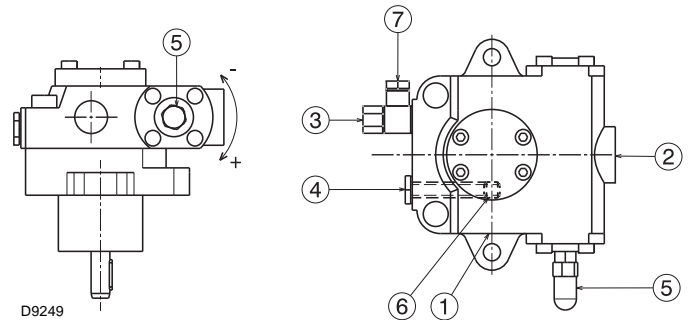

Fig. 22
The pumps are installed on the burner with the by-pass closed by screw 6) (Fig. 22).
- In order for self-priming to take place, one of the screw 4) (Fig. 22) of the pump must be loosened in order to bleed off the air contained in the suction line.
Key to layout (Fig. 22)
The a.m. operation is possible because the pump is already full of fuel when it leaves the factory. If the pump has been drained, fill it with fuel through the opening on the vacuum meter 4) (Fig. 22) prior to starting; otherwise, the pump will seize.
In order to adjust pump pressure, use the relevant screw 5)(Fig. 22).